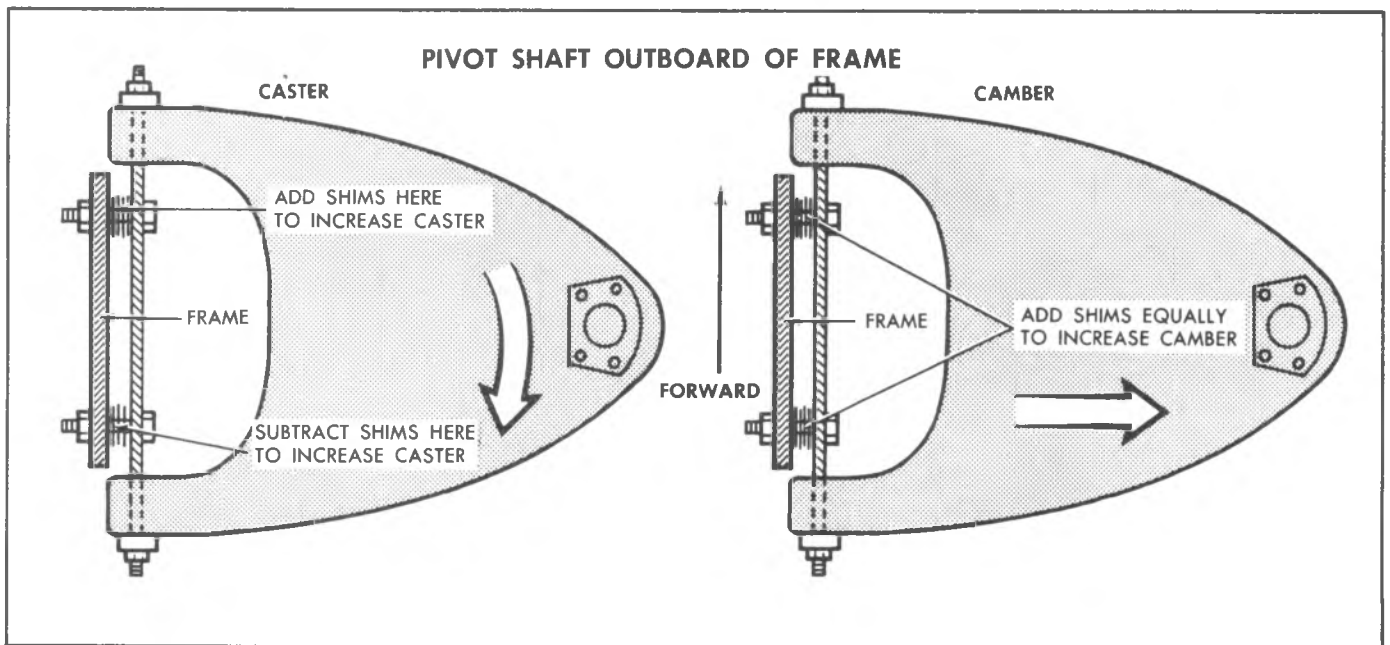

Fig. 3A-2--Caster - Camber Adjustment
How to Determine Caster (Fig. 3A-4)
1. With the vehicle on a level surface, determine the frame angle "B" in Fig. 3A-4, using a bubble protractor or inclinometer.
2. Draw a graphic as in Fig. 3A-4 that is representative of the frame angle (either "up" in rear or "down" in rear).